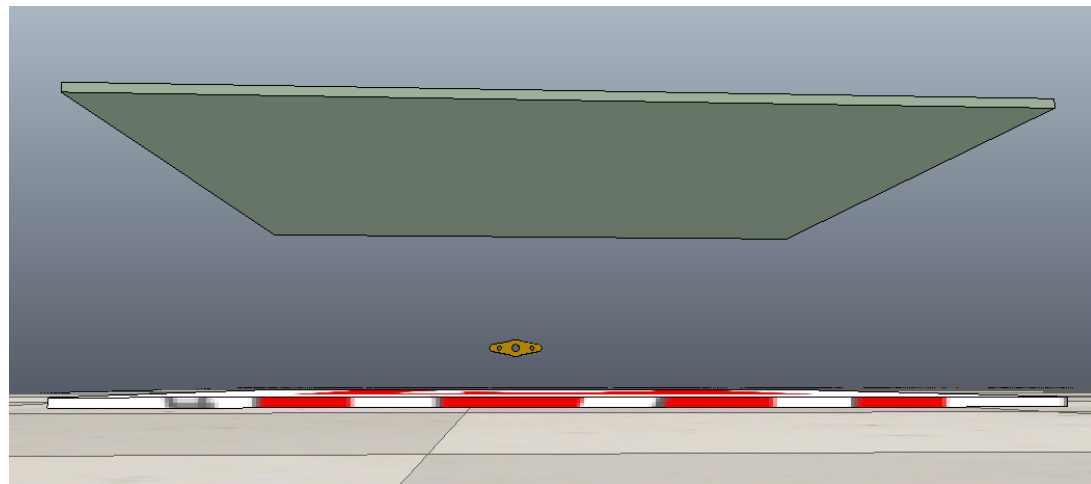

Figure 7: Orientation of servo_fin when top_plate is parallel to base_plate.
- Refer Figure 7 to first understand the statement mentioned above.
- Hence it is **recommended** to orient (**position of the servo_fin may not be same as shown in the Figure 7**) the servo fin as shown.